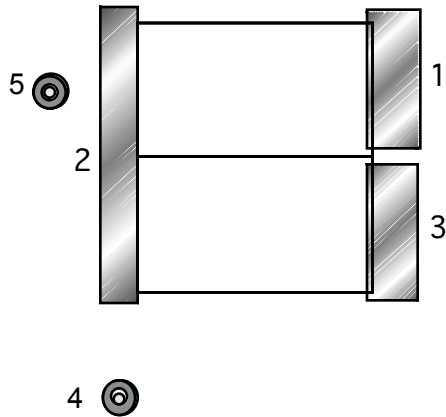

Figure 26
- Locate the larger binocular coil form for use at T2. Note: T2 may vary in length from 1" to 1 1/8" (25 to 29 mm). The given pads can accommodate either length. Figure 26 shows all five of T2's pads.